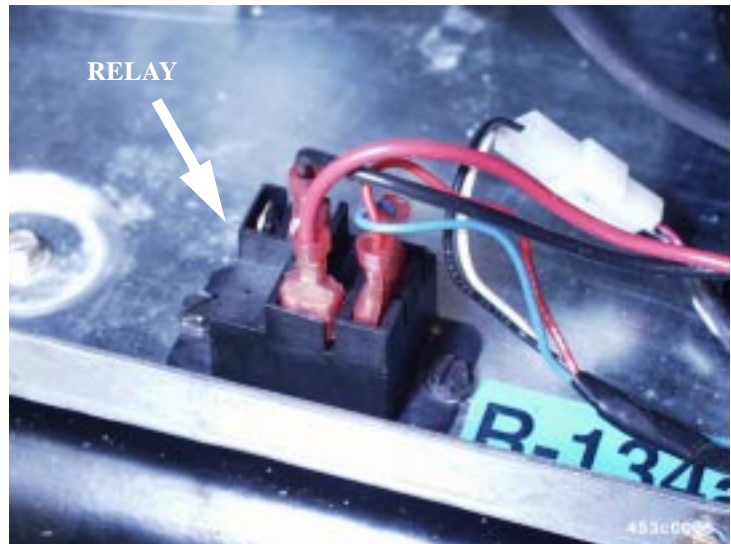

Figure 6
1. Remove the relay (9989677) from the refrigeration chassis. Set the screws aside (see figure 6).